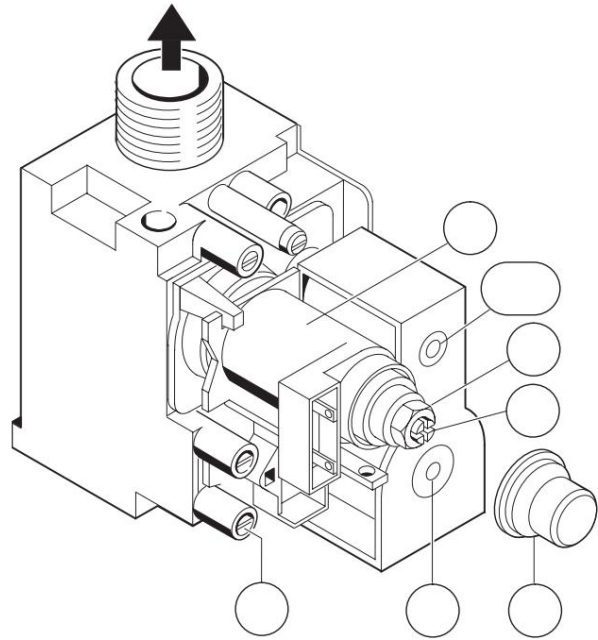

Fig. 41
B Remove the sealed cover (Fig. 41) from the two gas adjusting screws.
- B Loosen the sealing screw (3) and attach the U-tube pressure gauge to the measuring nozzle.
- B Remove the sealed cover (Fig. 41) from the two gas adjusting screws.
- B Extract the "max" gas flow (l / min) from the table on page 35. Adjust the nozzle pressure with the adjusting screw (63) following the instructions on the gas meter. Turning to the right means more gas, and turning to the left means less gas.